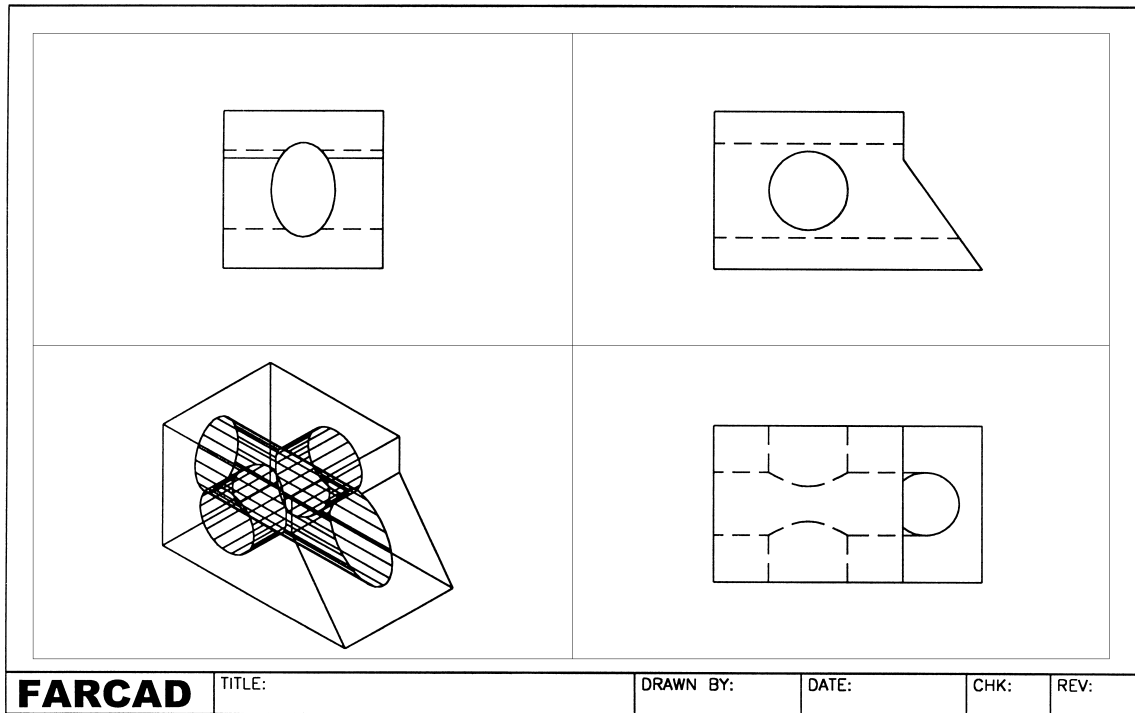

Figure 39.1 Using the PROFILE command with SLIPBL.
- 6 Refer to Fig. 39.1
- 18 At this stage the layout should resemble Fig. 39.1 and can now be saved if required, but not as SLIPBL.